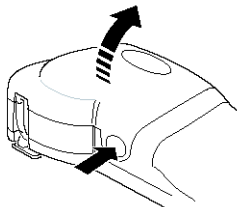

Figure 4
1. Press and release the label cassette cover to open the label compartment. See Figure 4.